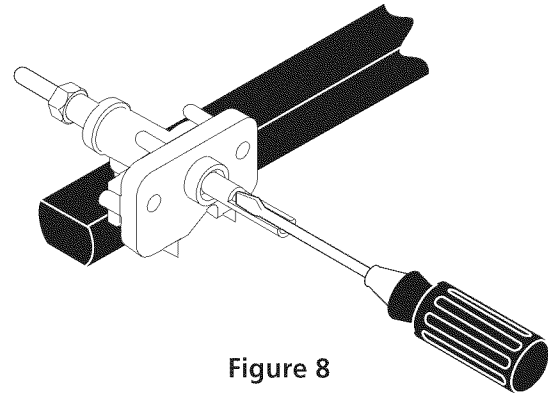

Figure 8
10.4 Adjust the "LOW" Setting of Surface Burner Valves (see Figure 8)